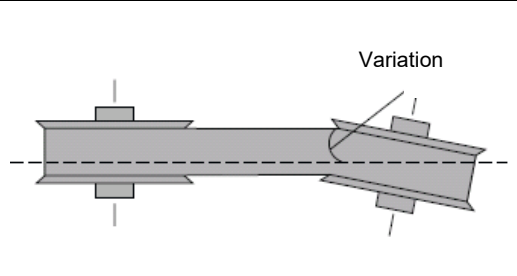

Fig. 9-2 Angular misalignment
10. Adjust motor position to correct misalignment (Fig. 9.2 and 9.3).
Generally, the tolerance in pulley alignment in V-belt drive transmissions may not be greater than 0.5 degrees or 5 mm for each 500 mm of distance between centers (Figs. 9.2 and 9.3).